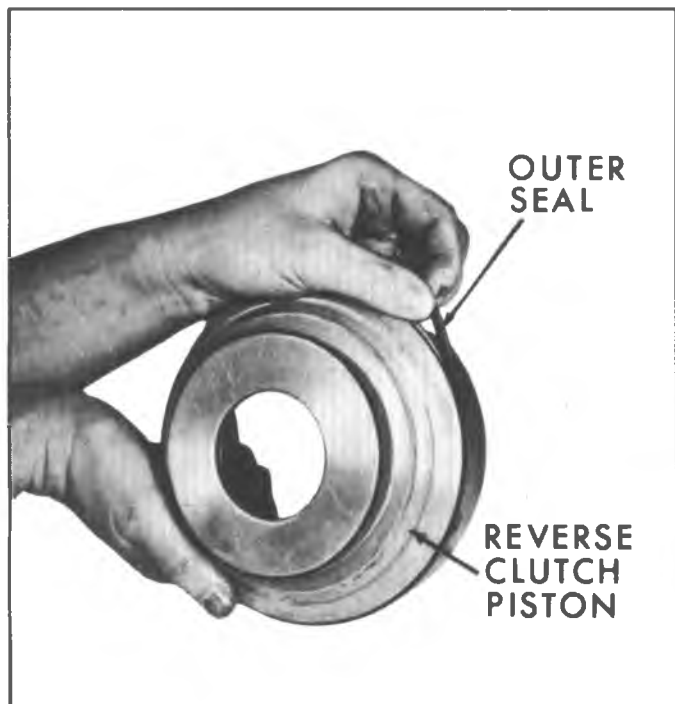

Fig. 47N--Removing Low and Reverse Clutch Piston Outer Seal
23. Remove low and reverse clutch piston outer seal (fig. 47N).